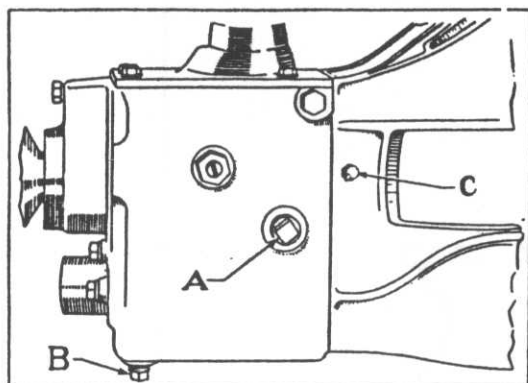

Figure 9
The throwout bearing is a heavy duty ball bearing provided with positive lubrication through a pressure fitting located on the right side of the clutch bell housing (see C, Figure 9). This should be lubricated with one ounce of light viscous grease every one thousand miles.
plug (A), Figure 9, at all times. Drain the lubricant every 5,000 miles by removing plug (B) and replacing with three pounds (or pints) of fresh oil of the proper specifications.